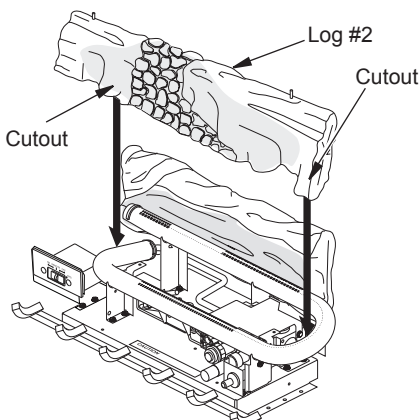

Figure 22 - Middle Log (Log #2) Placement
2. Place cutouts of middle log (log #2) on burner as shown in Figure 22.